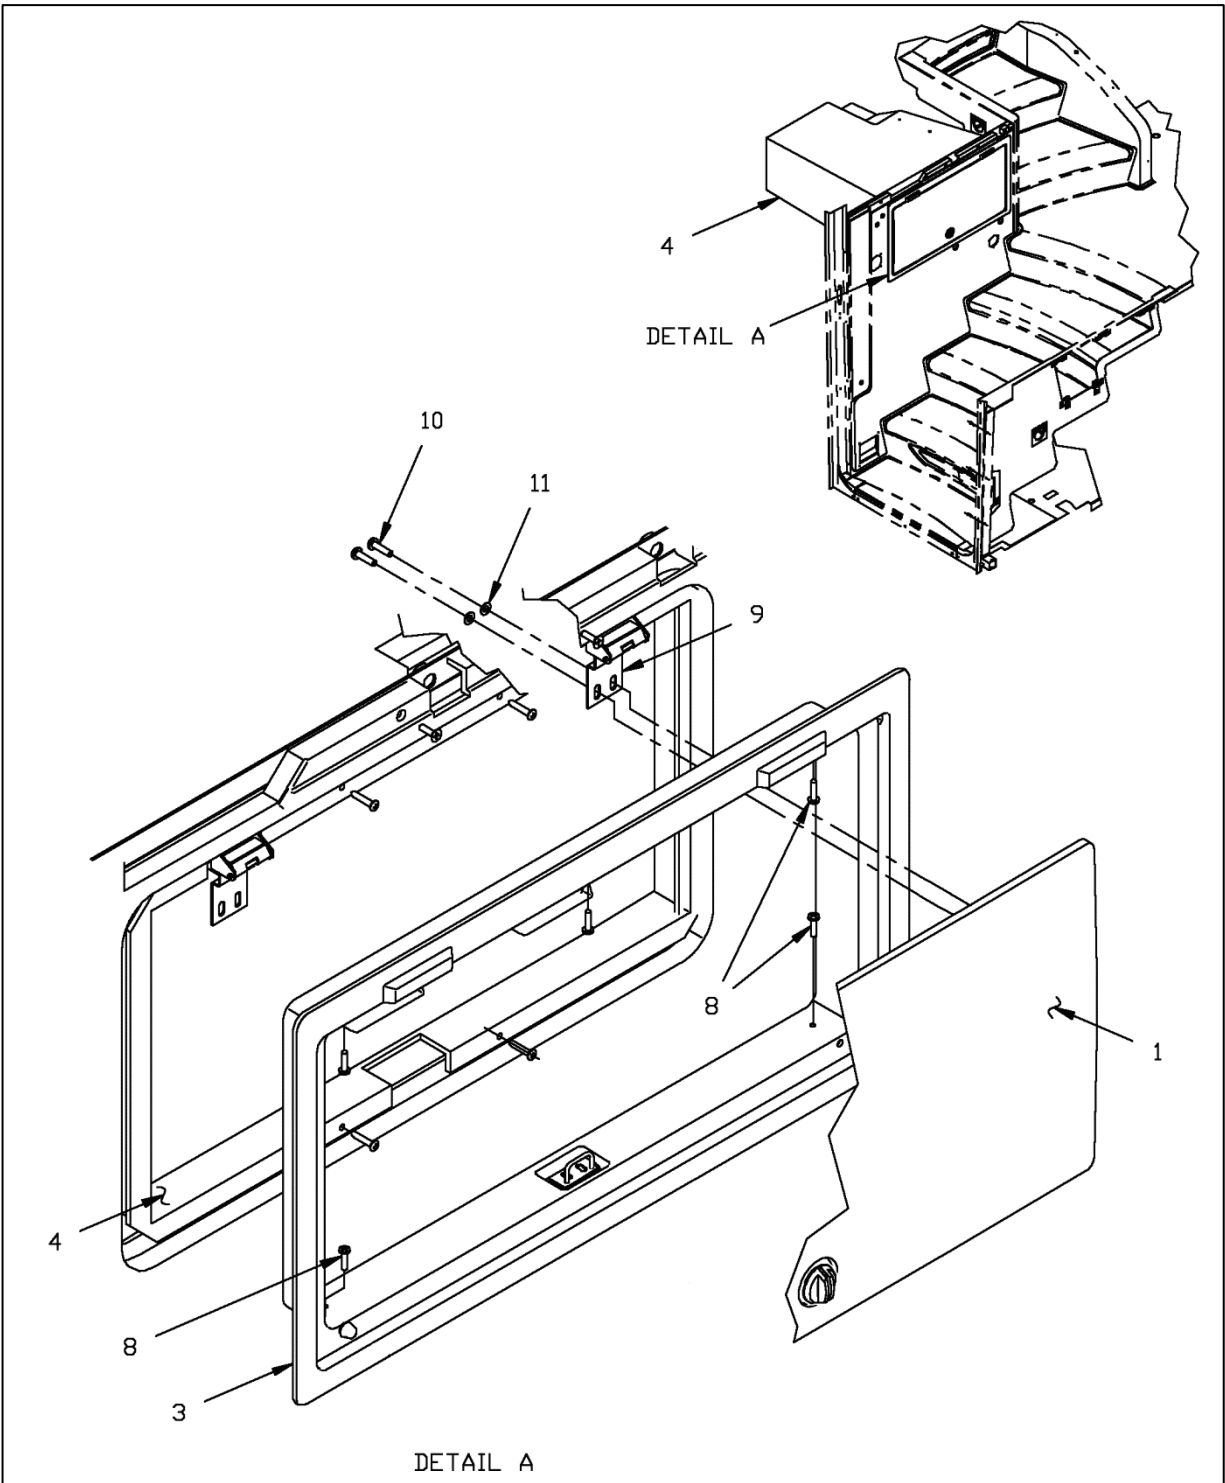
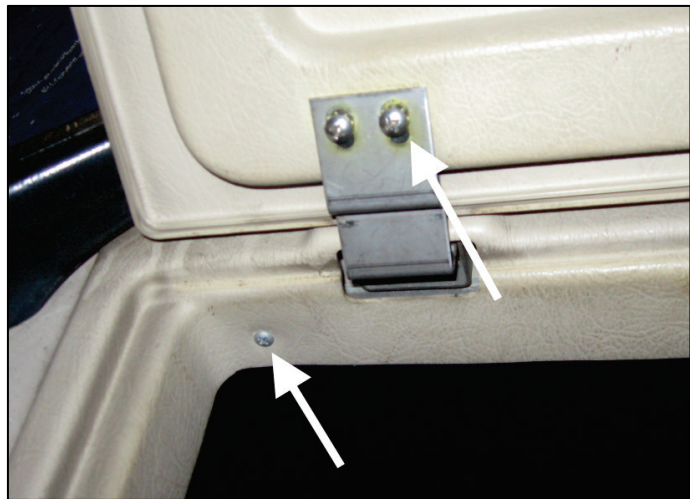

Figure 6
Figure 8
3.1. Remove edge trim (Fig. 6 item 3).
3.2. Remove hinge (Fig. 6 item 9, Fig. 8).
3.3. Continue by removing compartment inner lining (Fig. 6 item 4).